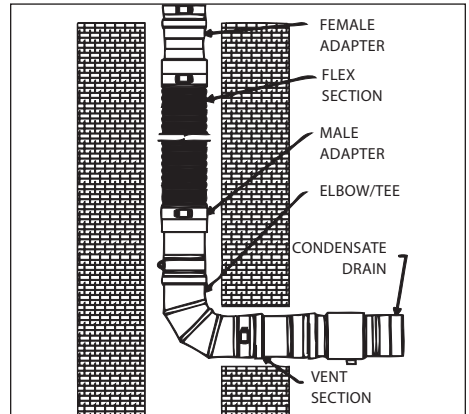

Figure 11
4. The FasNSeal Flex must stay within the masonry chimney; however the Elbow or other FasNSeal components will extend beyond the masonry chimney. (*Figure 11*)